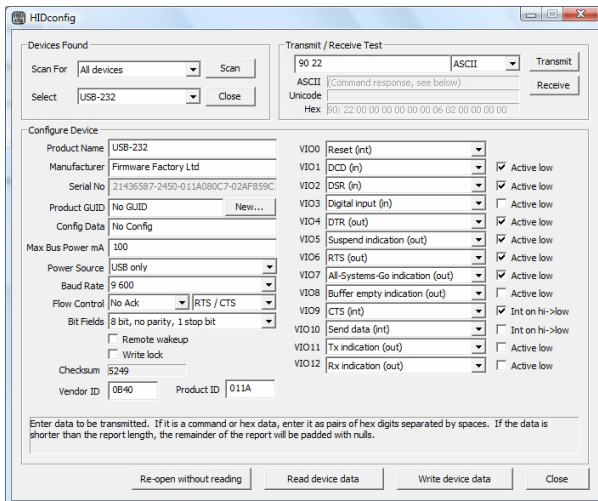

Figure 12. HIDconfig.exe application
1. Using the *HIDconfig.exe* application (figure 12) in the development kit. This application makes it very easy to copy the configuration from an existing product to a new product and is suitable for in-factory use. (It cannot be used if you have changed the Vendor ID and / Product ID.)